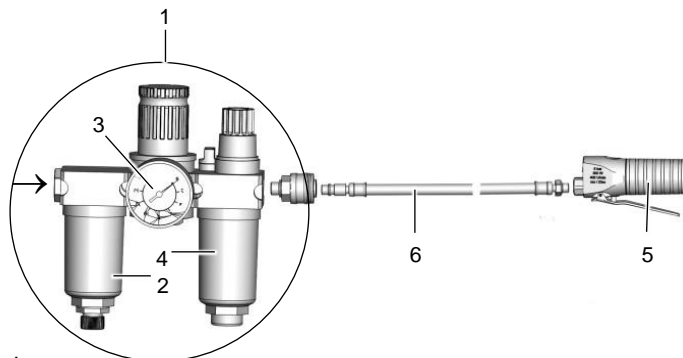

Fig. 5.1 – Compressed air connection
Mount the oil mist lubricator (1) in the following sequence, see Fig. 5.1:
- Water separator (2),
- Pressure gauge (3),
- Oiler (4).
EFA 620 (see Fig. 5.1)